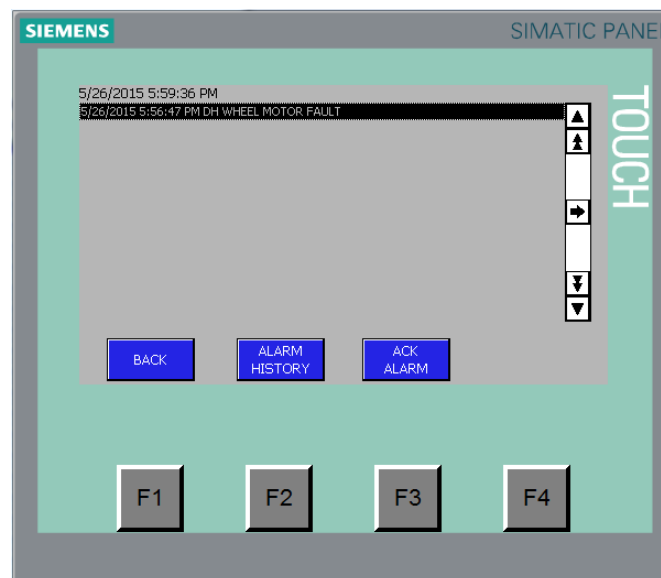

Figure 7-2
2. To see the details on the fault condition, press the ALARMS button. Figure 7-2 shows the type of screen that the display might present.